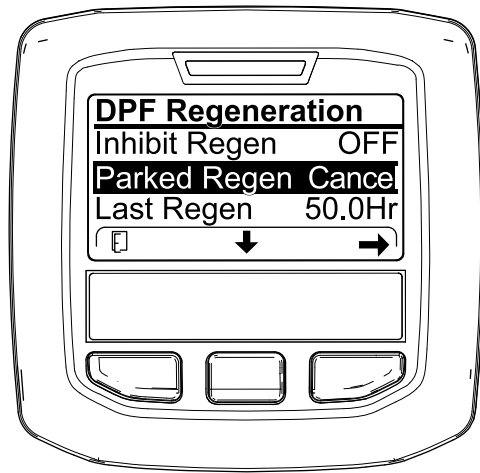
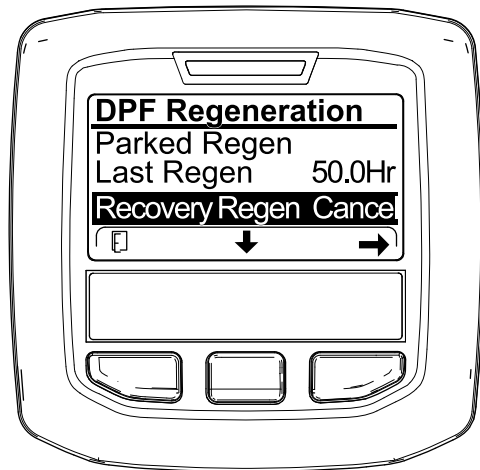

Figure 62
Figure 63
1. Access the DPF Regeneration menu (Figure 62).
2. Press the center button to scroll down to the PARKED REGEN CANCEL (Figure 62) or the RECOVERY REGEN CANCEL option (Figure 63).
3. Press the right button to select the Regen Cancel entry (Figure 62 or Figure 63).